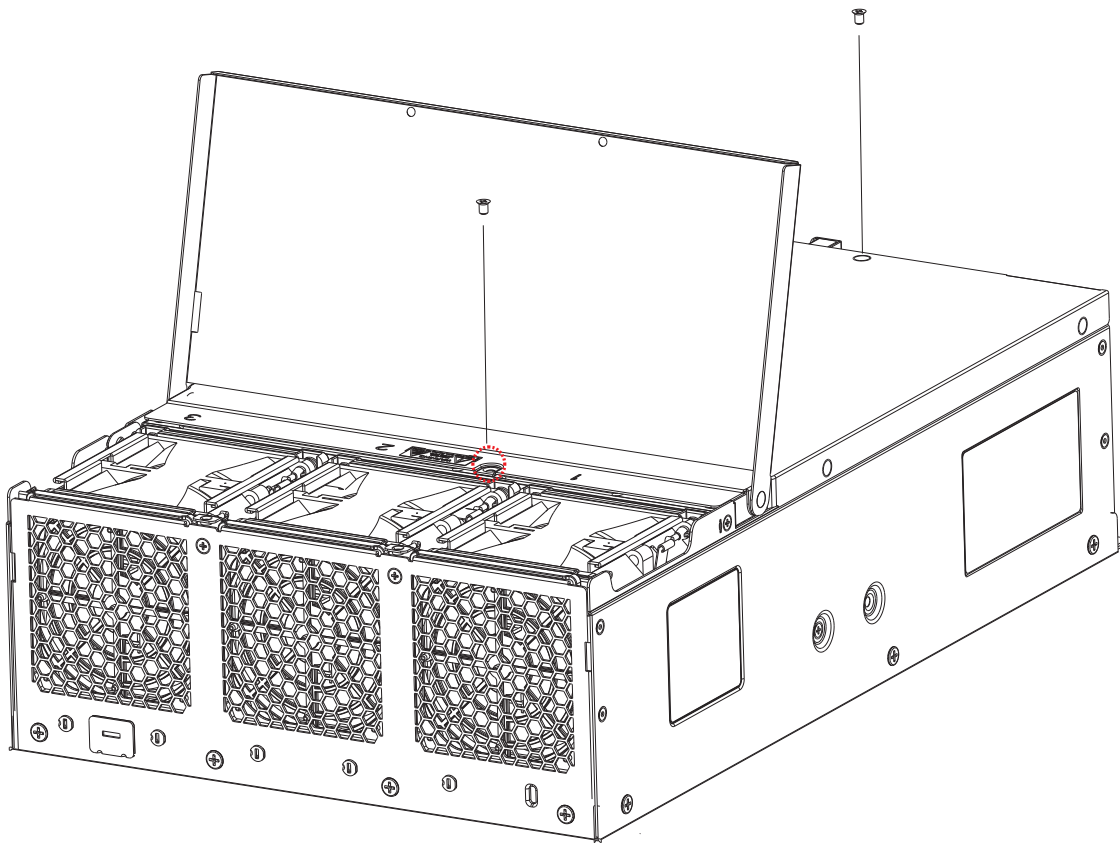

Figure 2-2. Open Fan Cover to Access Fans, Filters, and Screw
2. Remove one screw on top of the system cover near the I/O panel. See Figure 2-2.
5. Remove the screw that has been exposed. See Figure 2-2.